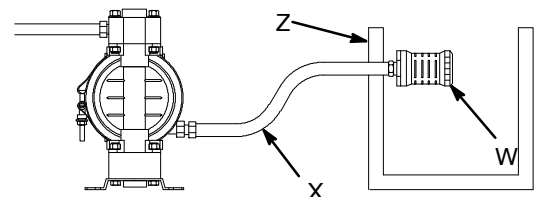

Fig. 2
- The Typical Installations in Fig. 2 are only guides for selecting and installing system components. Contact your Graco distributor for assistance in planning a system to suit your needs.
- Fig. 2 shows some installation examples. On all installations, mount the pump using screws and nuts.
A bleed-type master air valve (B) is required in your system to relieve air trapped between this valve and the pump. See Fig. 2. Trapped air can cause the pump to cycle unexpectedly, which could result in serious injury, including splashing in the eyes or on the skin, injury from moving parts, or contamination from hazardous fluids.
1. Install the air line accessories as shown in Fig. 2. Mount these accessories on the wall or on a bracket. Be sure the air line supplying the accessories is electrically conductive.
- a. The fluid pressure can be controlled in either of two ways. To control it on the air side, install an air regulator (G). To control it on the fluid side, install a fluid regulator (J) near the pump fluid outlet (see Fig. 2).
- b. Locate one bleed-type master air valve (B) close to the pump and use it to relieve trapped air. Read the **WARNING** above. Locate the other master air valve (E) upstream from all air line accessories and use it to isolate them during cleaning and repair.
- c. The air line filter (F) removes harmful dirt and moisture from the compressed air supply.
2. Install an electrically conductive, flexible air hose (C) between the accessories and the 1/4 npt(f) pump air inlet. Use a minimum 1/4 in. (6.3 mm) ID air hose. Screw an air line quick disconnect coupler (D) onto the end of the air hose (C), and screw the mating fitting into the pump air inlet snugly. Do not connect the coupler (D) to the fitting yet.
A fluid drain valve (H) is required in your system to relieve pressure in the hose if it is plugged. See Fig. 2. The drain valve reduces the risk of serious injury, including splashing in the eyes or on the skin, or contamination from hazardous fluids when relieving pressure. Install the valve close to the pump fluid outlet.
1. Use electrically conductive fluid hoses (K). The pump fluid outlet is 3/4 in. Screw the fluid fitting into the pump outlet snugly. **Do not overtighten.**
2. Install a fluid regulator (J) at the pump fluid outlet to control fluid pressure, if desired (see Fig. 2). See **Air Line**, step 1a, for another method of controlling pressure.
3. Install a fluid drain valve (H) near the fluid outlet. Read the **WARNING** above.
Diaphragm failure will cause the fluid being pumped to exhaust with the air. Place an appropriate container at the end of the air exhaust line to catch the fluid. See Fig. 2 .
See **Venting Exhaust Air** in Fig. 2. Exhaust to a remote location as follows:
1. Remove the muffler (W) from the pump air exhaust port.
2. Install an electrically conductive air exhaust hose (X) and connect the muffler to the other end of the hose. The minimum size for the air exhaust hose is 3/8 in. (10 mm) ID. If a hose longer than 15 ft (4.57 m) is required, use a larger diameter hose. Avoid sharp bends or kinks in the hose.
3. Place a container (Z) at the end of the air exhaust line to catch fluid in case a diaphragm ruptures. See Fig. 2.
1. Fig. 2 and Parts Drawings. Follow preceding steps 1 through 8 of **Starting and Adjusting Pump**.
2. Open air regulator (G).